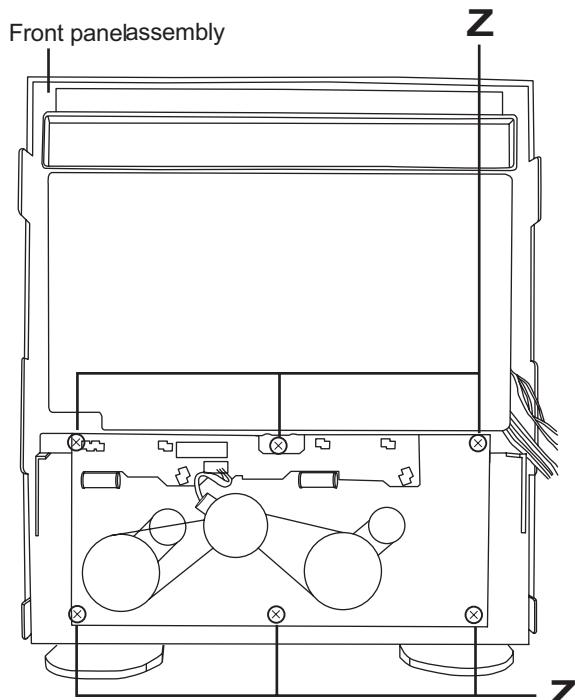

Fig.18
(See Fig.18)
3.2.10 Removing the cassette deck main motor, and replacing the main belts (See Fig.18, 23 and 24)
- (1) Remove six screws **Z** retaining the cassette deck mechanism. (Fig.18)
- (2) Remove the cassette deck mechanism.
- (3) Remove two screws **t** retaining the main motor from the front side of the cassette deck.
3.2.11 Removing the leaf switches of the cassette deck mechanism (See Fig. 18 and 25)
- (1) Remove the six screws **Z** that retain the cassette deck mechanism. (Fig.18)
- (3) Turn the cassette deck mechanism upside down.
- (4) Remove the solder from around the leaf switches.
- (5) Pull out the leaf switches from the front side of the cassette deck mechanism.
(See Fig. 18 and 26)
- (1) Remove six screws **Z** that retain the cassette deck mechanism. (Fig.18)
- (2) Remove the cassette deck mechanism and place it so that the front side faces up.
- (3) Remove the solder from the bottom side of the head terminal and disconnect the wire.
- (4) Remove screws **U** that retains the head.
- (5) Remove screws **V** that retains the head.
- (6) Hold the head and slide it in the direction of the arrow to remove it.